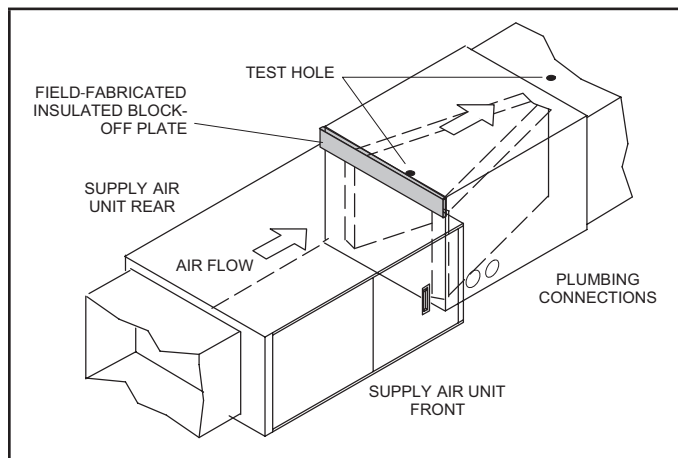

FIGURE 2. D-Width Coil with C-Width Furnace
- 5 - **Applications using BC7*H -71 D-width unit with C-width furnace** – Figure 2 shows an application that includes a D-width coil and a C-width furnace. This application requires construction of an insulated, field-supplied block-off plate to cover the open space on the coil housing